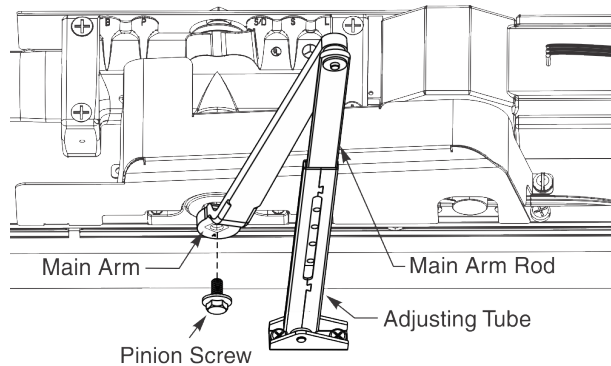

Figure 6 6021/6031 Arms Shown
2. Using 7/16" wrench, remove pinion screw holding main arm on pinion. (Figure 6)